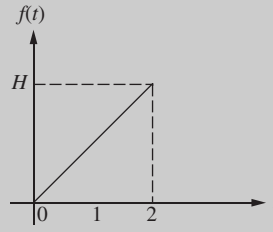

Figure 10.29 Applied force for resistive training device.
- Determine the steady-state solution $y_{\text{ss}}(t)$ for the applied force shown in Fig. 10.29.